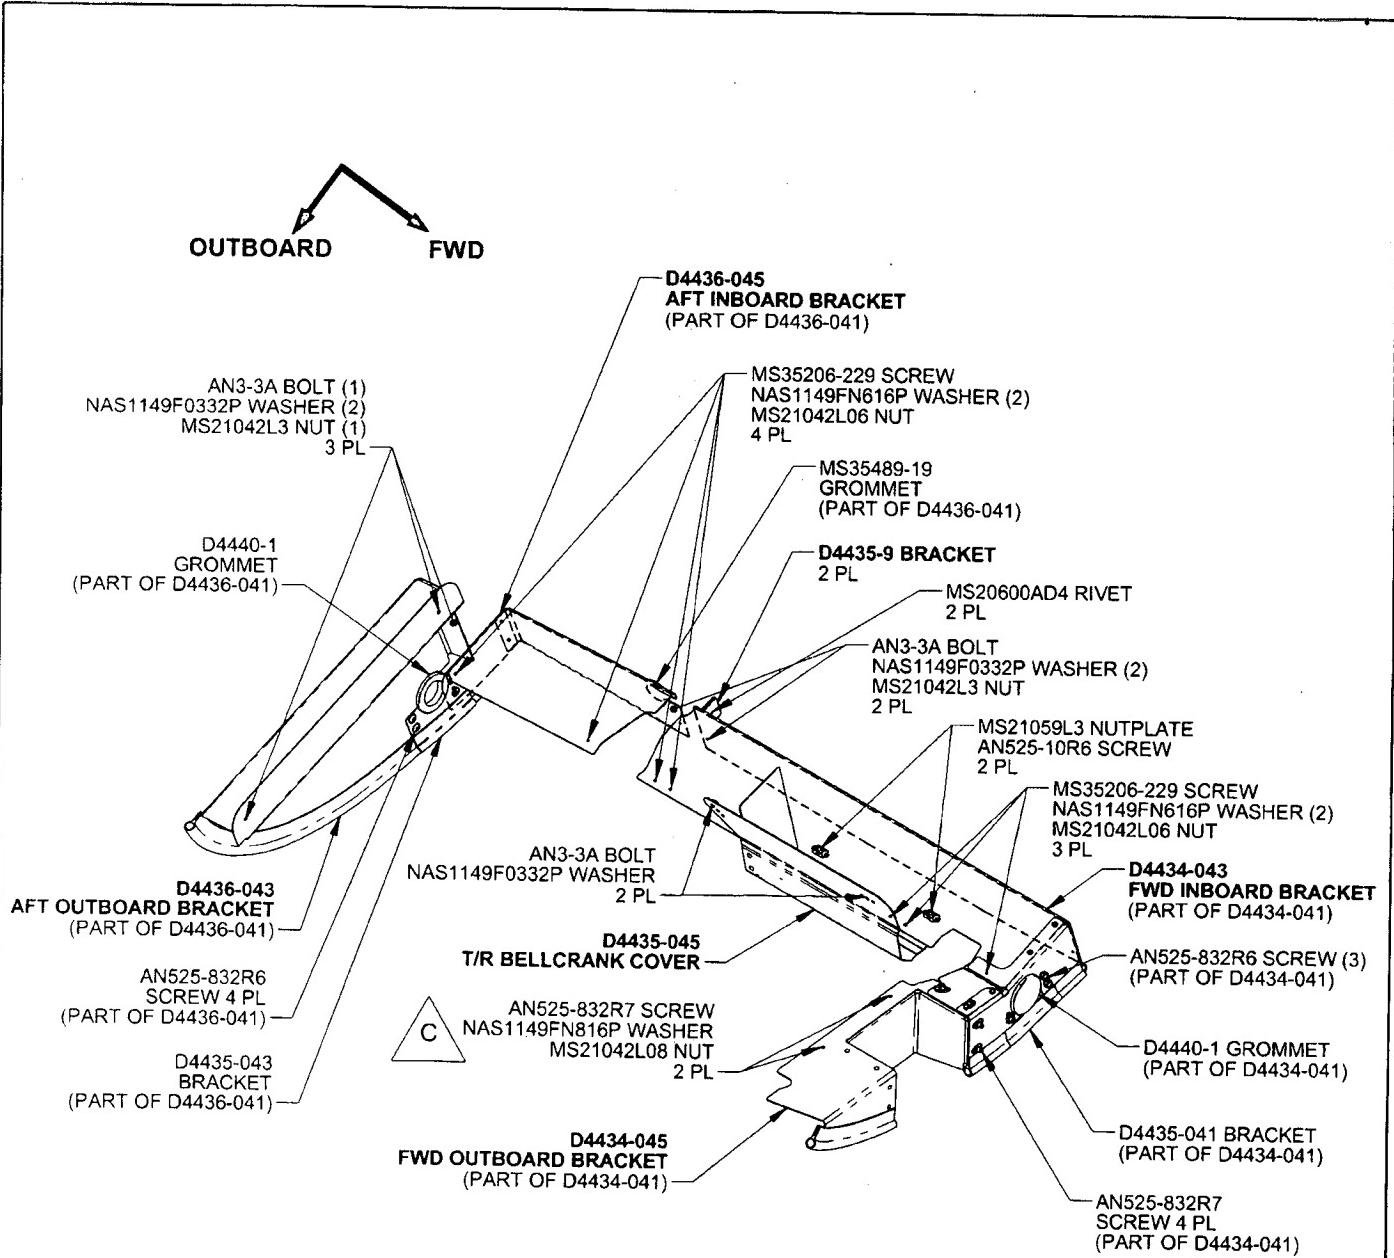

Figure 2. Floor Window Close-out Kit Installation
- 1) Figure 2 shows the general arrangement and installation of the D350-567-141 Close-out Kit. The procedure that follows outlines the step-by-step procedures for installing the kit with reference photos from the initial installation.